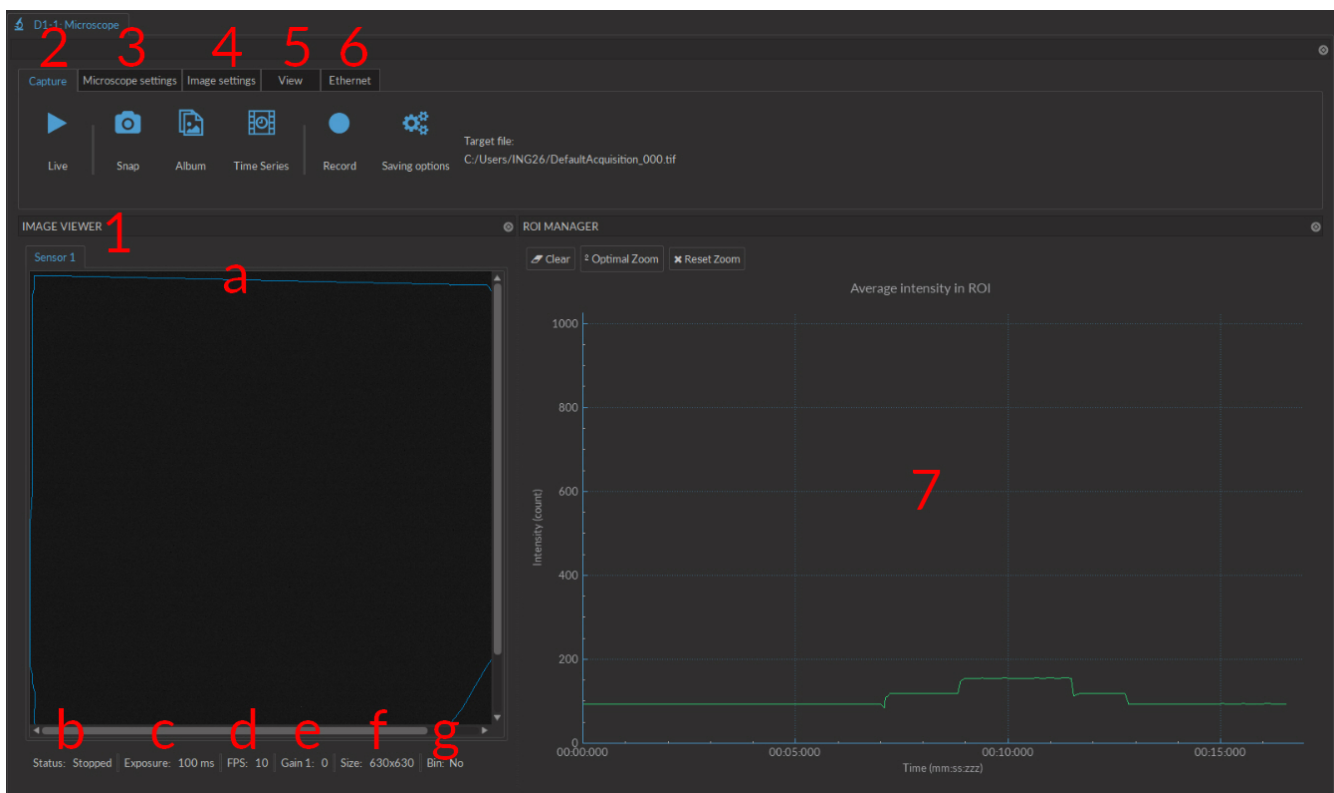

Figure 4.1: Microscope Module Interface
Below is the user interface (Fig. 4.1) and a complete description of all the functions.
1. The **Image Box** (Fig. 4.1) displays images from the microscope and allows region of interest (ROI) drawing by clicking and dragging the mouse over the image.
- a) The **Sensor Tabs** (Fig. 4.1) display the sensors available to view. For multi-sensor microscopes, changing tabs allows you to see the image available to each.
- b) The microscope **Status** (Fig. 4.1) will indicate the current microscope state (Live/Stopped).
- c) The **Exposure** (in ms) (Fig. 4.1) indicates the exposure time of the microscope sensor.
- d) The **FPS** (Frames Per Second) (Fig. 4.1) indicates the number of frames per second taken by the sensor.
- e) The **Gain** (Fig. 4.1) indicates the electrical gain of the sensor.
- f) The **Size** (Fig. 4.1) indicates the resolution of the sensor images (in Pixels x Pixels).
- g) The **Bin** (Fig. 4.1) status indicates whether or not the sensor image is being binned (yes/no).
2. The **Capture** tab (Fig. 4.1) contains different image-capturing functions of the microscope.
3. **Microscope settings** tab (Fig. 4.1) is used to set parameters related to the microscope recording images.
5. The **View** tab (Fig. 4.1) is used to change viewing parameters of the sensor image. These changes will only appear on the sensor image when a new **Capture** sequence is started. Any adjustments made affect only the displayed image and not the recorded images.
6. The **Ethernet** tab (Fig. 4.1) is used to define the ethernet connection used to connect the computer to the microscope driver.
7. The **ROI Manager** (Fig. 4.1) displays the live mean pixel intensity from a drawn ROI.